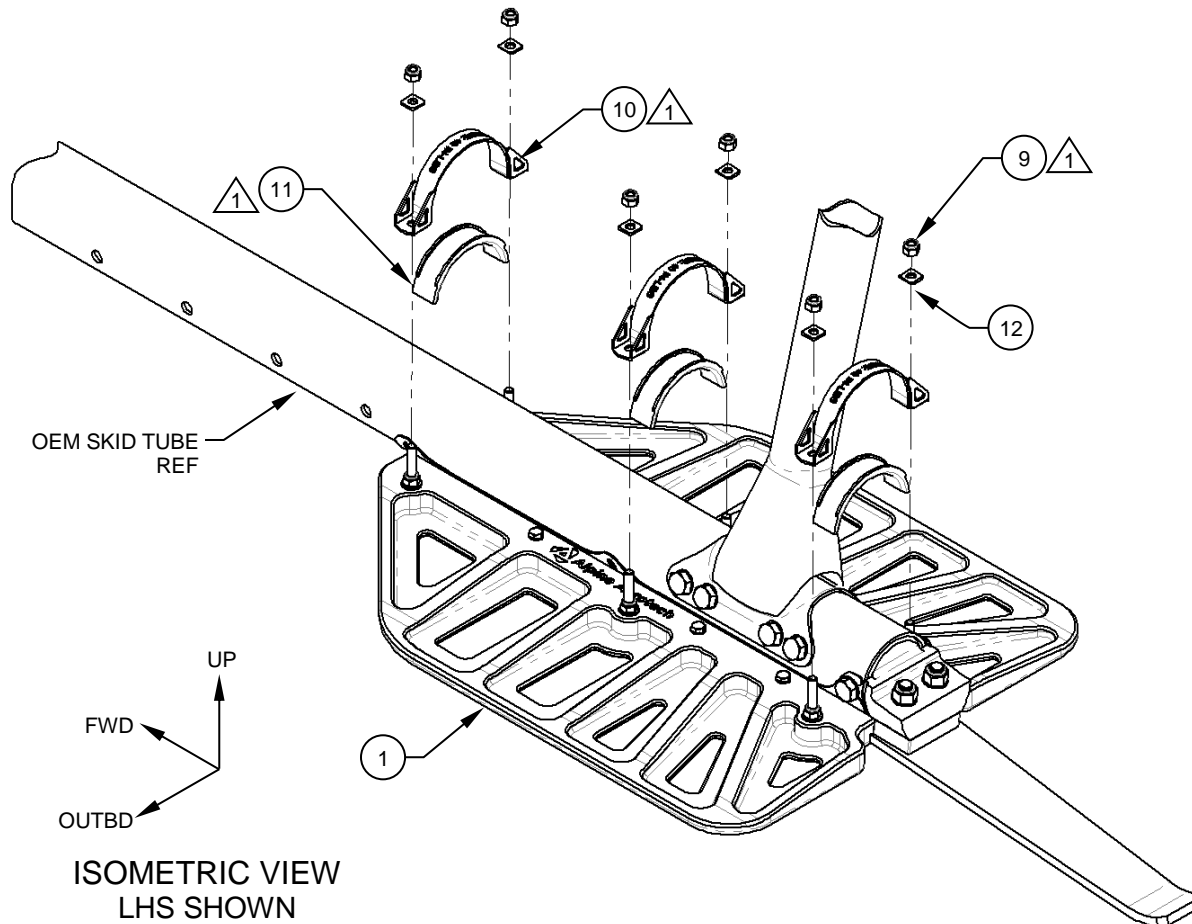

Figure 1
2. Remove the Strap, Assys (Item 10), Cap, Details (Item 11) and the associated Nuts (Item 9) and Radius Washers (Item 12). Raise the aircraft and remove the Bear Paw, Detail (Item 1) from under the skid tube. Reference Figure 1.
- Repeat removal steps on the RHS. Reference Figures 1 & 2. Removal complete.
6. Repeat removal steps on the RHS. Reference Figures 1 & 3. Removal complete.
3. While the aircraft is raised, position the Bear Paw, Detail (Item 1) under the skid tube. Reference Figure 1.
4. Once the Bear Paw, Detail (Item 1) is under the skid tube in its approximate location, place the Strap, Assys (Item 10) and their respective Cap, Details (Item 11) on their corresponding bolts. Reference Figure 1.
NOTE: Ensure the Aft-most Strap, Assy (Item 10) and associated Cap, Detail (Item 11) are positioned between the cross-tube saddle fitting and the existing bolt at the aft end of the skid tube. Reference Figure 1.
6. Lower the aircraft onto the Bear Paw, Details (Item 1). After ensuring sufficient clearance between the Bear Paw, Details and the spring blade, torque the fasteners equally to 40 in/lbs. Reference Figure 1).